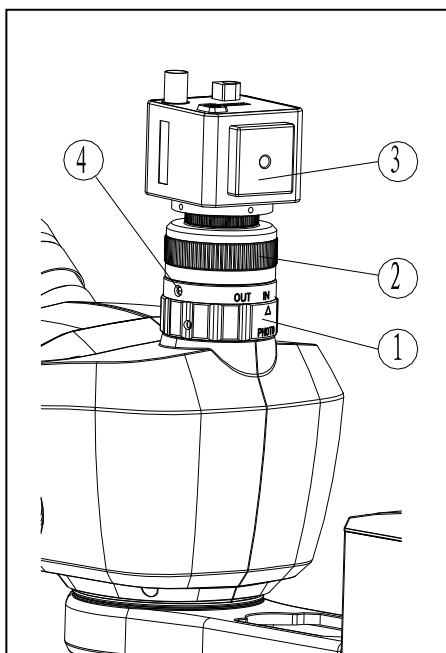

Fig 12
3.2.8 Adjusting camera parfocality (Trinocular main body) (Fig 12)